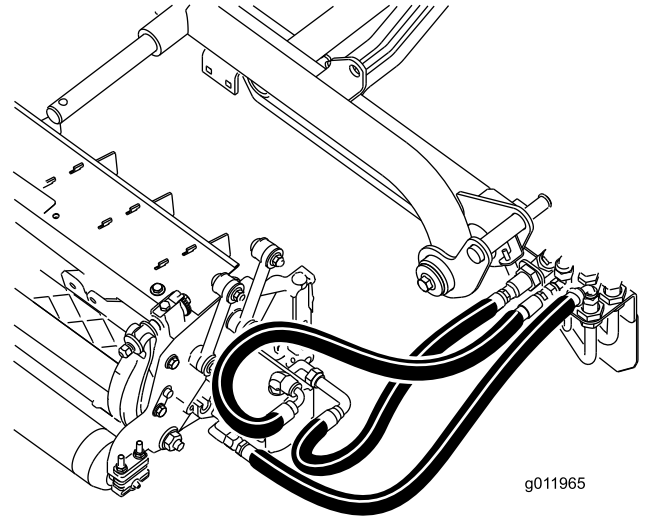

Figure 21
**Important:** Ensure that the hoses are free of twists or sharp bends and that the rear cutting unit hoses are routed as show in (Figure 21). Raise the cutting units and shift them to the left (Model 03170). The rear cutting unit hoses must not contact traction cable bracket. Reposition the fittings and/or hoses, if necessary.